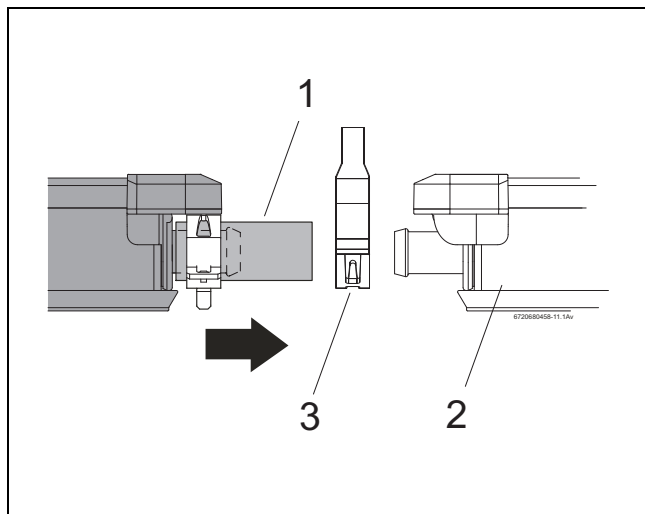

Fig. 41 Pushing the second collector towards the first
- Place the second collector with the pre-assembled solar hoses (Fig. 41, [1]) on the profile rails and let it slide into the anti-slip brackets.
- Push the second hose clip (Fig. 41, [3]) over the solar hose.
- Push the second collector up against the first collector (Fig. 41, [2]) in such a way that the pre-assembled solar hoses are pushed onto the left hand connections of the first collector.